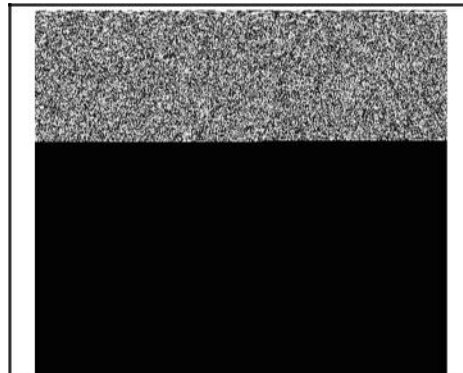

Figure 28
3. Remove idle speed screw with spring (B, Figure 28), if equipped.
4. Rotate throttle shaft (C) to the closed position. Remove throttle valve screws (F), then remove the throttle valve. Slide out the throttle shaft with the foam seal. Discard the seal.
5. Grasp choke valve and remove from choke shaft (A). Slide out choke shaft with the foam seal. Discard the seal.
6. With a modified pin punch (E), remove Welch plug(s) from carburetor body.